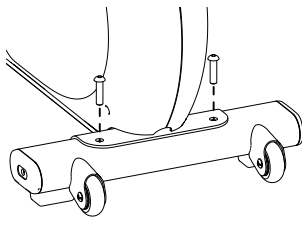

Figure 4
- Secure the front stabilizer using two M10 x 40 mm BHCS (Figure 4). Fully tighten using a 6 mm hex wrench.